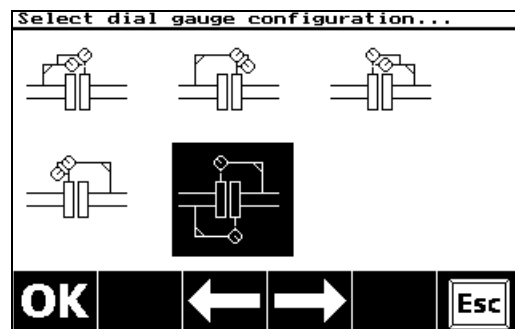

Figure 5
6) Select the desired dial indicator setup using the **→** softkey. For this example, we will select the Reverse Indicator or “double dial” setup (See Figure 5). Confirm your selection with **OK**. (Note: For an example of the “Rim & Face setup” see page 4.)